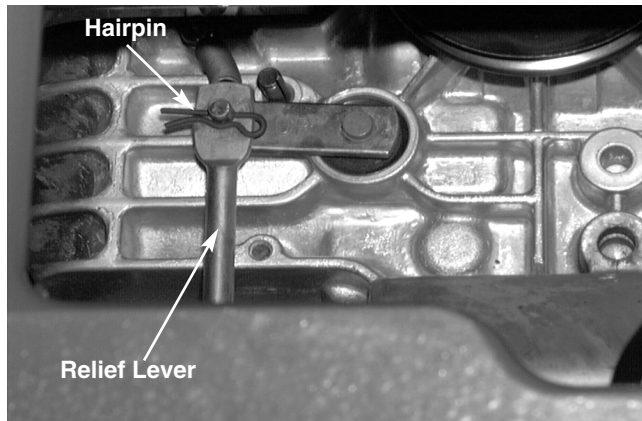

FIGURE 4.
19. Remove the hairpin securing the hydrostatic relief lever to the hydrostatic transmission. See figures 4 and 5.
20. Set the hydrostatic relief lever aside. See figures 4 and 5.